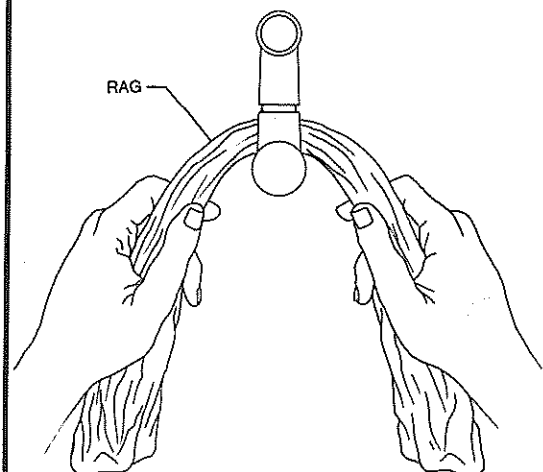

FIG. 1
1. REMOVE THE WINDOW CRANK (SEE FIG. 1), ARMREST, ETC., FROM THE DOOR PANEL. IF A SPECIAL TOOL IS NOT AVAILABLE, WORK THE EDGE OF A RAG BETWEEN THE HANDLE AND THE DOOR PANEL. MOVE THE RAG BACK AND FORTH SLOWLY UNTIL IT CATCHES THE SPRING CLIP. REMOVE THE CLIP AND THEN THE HANDLE. WORKING AROUND THE EDGES, CAREFULLY PRY LOOSE THE PANEL (SEE FIG. 2). CHECK BEHIND THE PANEL AND DISCONNECT ANY WIRE LEADS, THEN REMOVE THE PANEL.